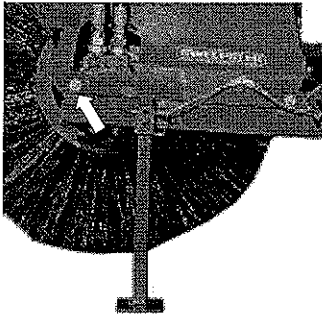

figure 43
1. On both sides, remove the front screw (figure 43) from the hood.